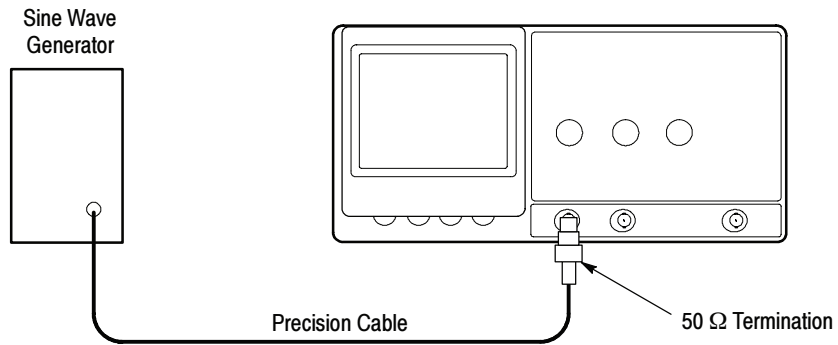

Figure 5: Trigger level check setup
1. Use the 50 Ω precision coaxial cable to connect the output of the leveled sine wave generator to the 50 Ω termination; then connect the 50 Ω termination to the TAS 200 series instrument CH 1 input. See Figure 5 below.